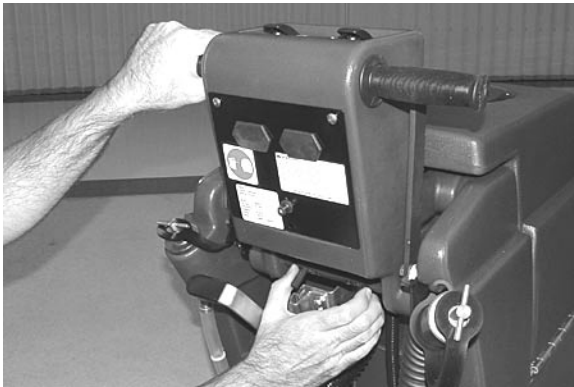

FIG. 10
1. Adjust control grips to a comfortable operating height (*three settings*). Squeeze together the two levers under the console to raise or lower control grips (Figure 10).